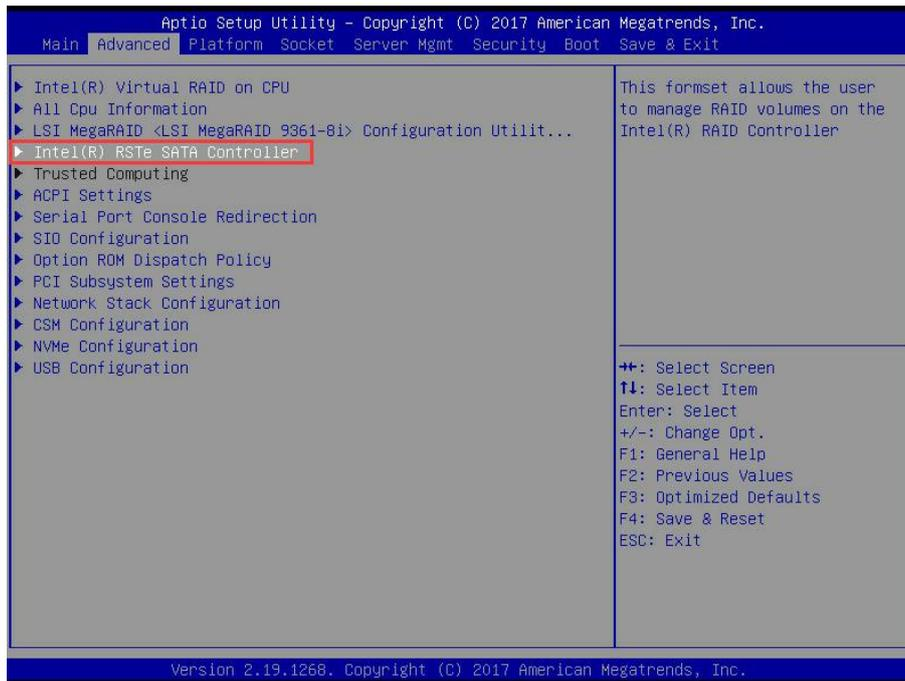

Fig.6.3
- e) Restart the server, enter the BIOS Setup interface, move to the advance page, and you will see Intel (R) RSTe SATA Controller, press enter to configure RAID, such as Fig. 6.3
✧ Fig. 6.3 Intel RSTe SATA Controller